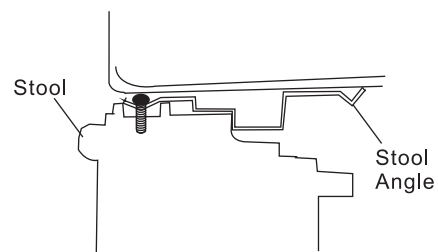

Fig.12
2. Place cabinet in window with bottom stool angle firmly seated over window stool as shown. Bring window down temporarily behind top angle to hold cabinet in place (Fig.12).
Step 2. Remark a line on the provide R1 insulation panel according to a length $1/8$ " (3mm) less than the measured width in step 1, then cut the R1 insulation panel along the line (Fig.12).